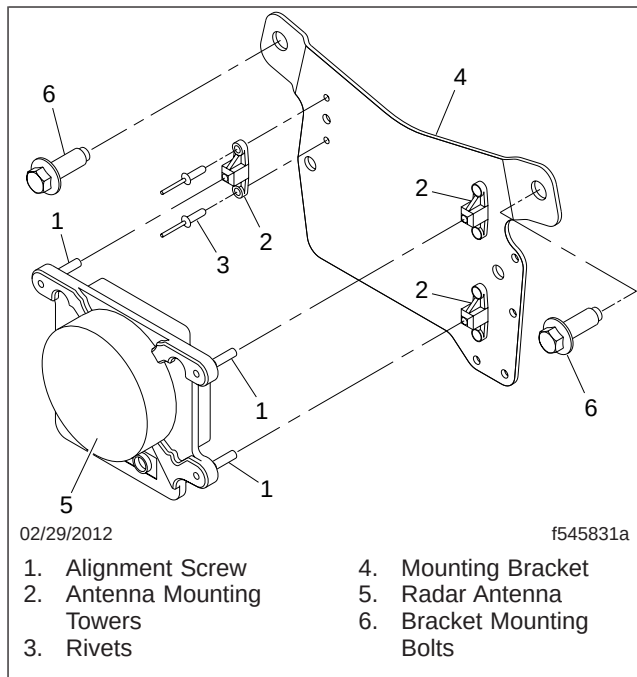

Fig. 1, Radar Antenna Mounting Assembly
4. Remove the radar antenna mounting bracket. See Fig. 1.